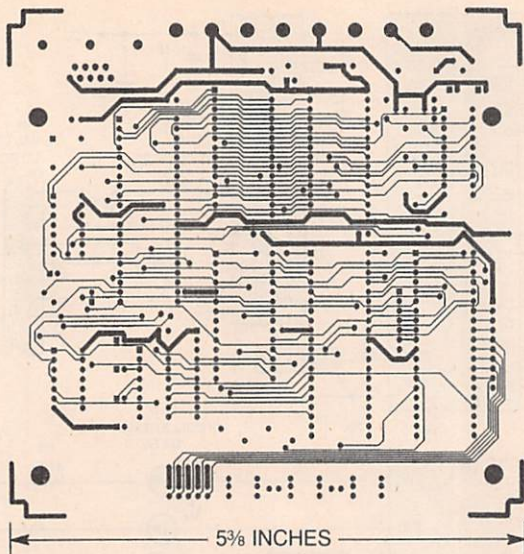

Fig. 3. The Data Logger was assembled on a double-sided, printed-circuit board; a full-scale template of the component side of the board is shown here.
**Construction.** Due to the large number of circuit interconnections, it is recommended that the project be assembled on a printed-circuit board as opposed to other construction methods. Figure 3 shows a full-size template of the component side of